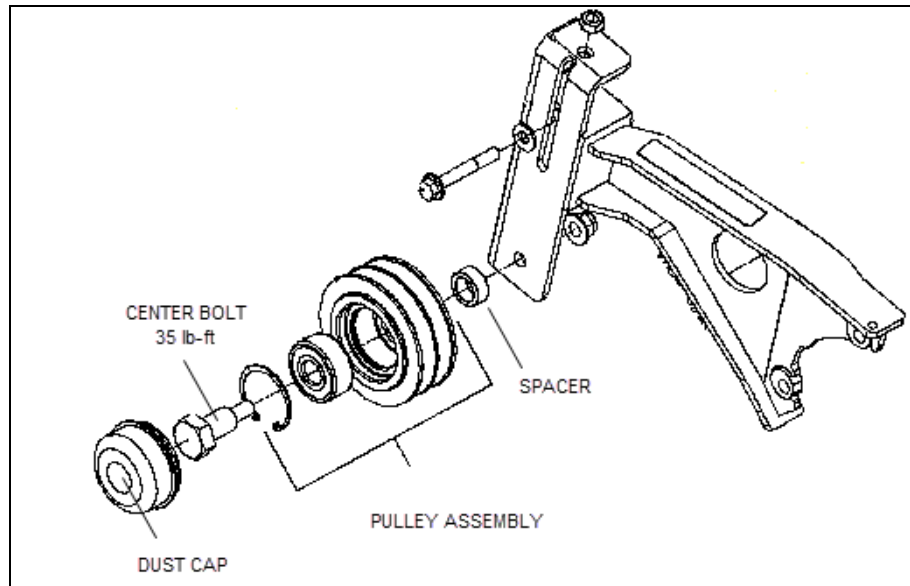

FIG.7 A/C TENSIONER PULLEY INSTALLATION
NOTE: Be cautious not to lose the spacer behind the pulley (as seen in Fig.7).
7. Reinstall the A/C idler pulley on the idler body, torque center bolt to **35 lb-ft** and add yellow torque seal stripe to the bolt head (Fig.7).